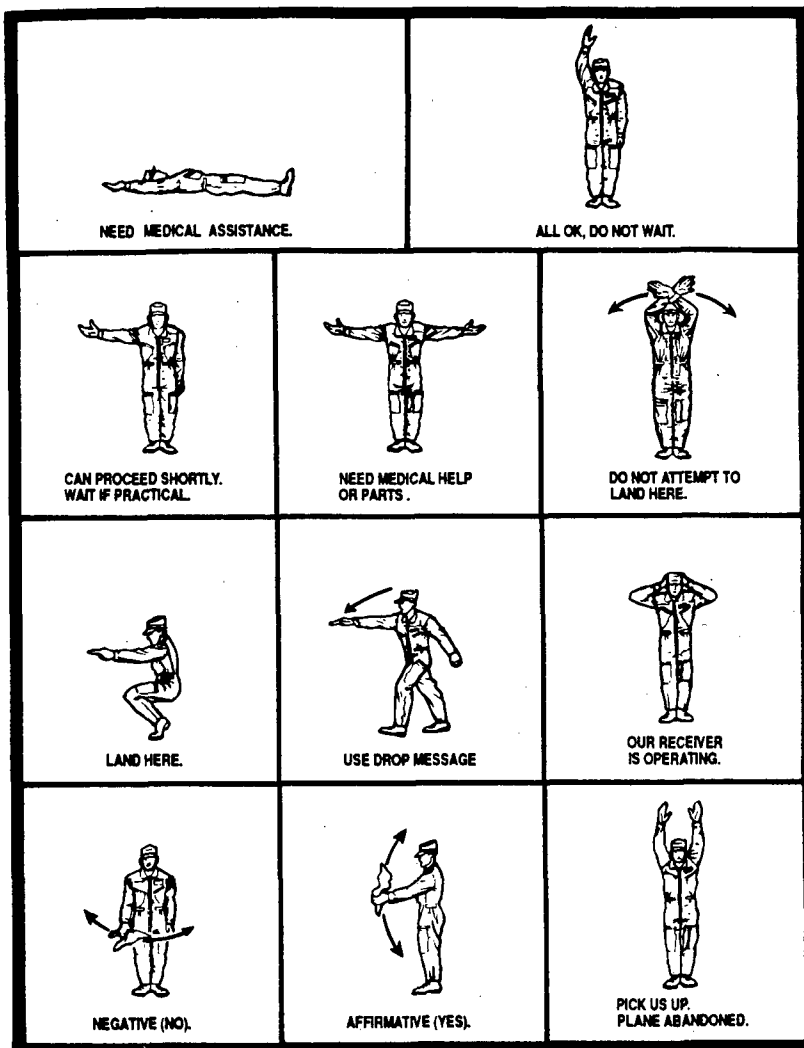

Figure 3-8. Body Distress Signals.
- Body signals - Figure 3-8 shows the body signals that survivors can use during the day once they have attracted the attention of CSAR aircrews. Figure 3-9 shows aircraft acknowledgement signals.